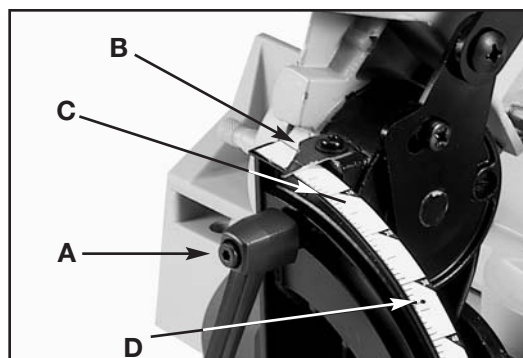

Fig. 17
The bevel angle of the cutterhead is determined by the position of the pointer (B) Fig. 17 on the large scale (C). A triangle indicator (D) is provided to rapidly position the cutting arm at the 33-7/8 degree left bevel angle which is used for cutting crown moulding.